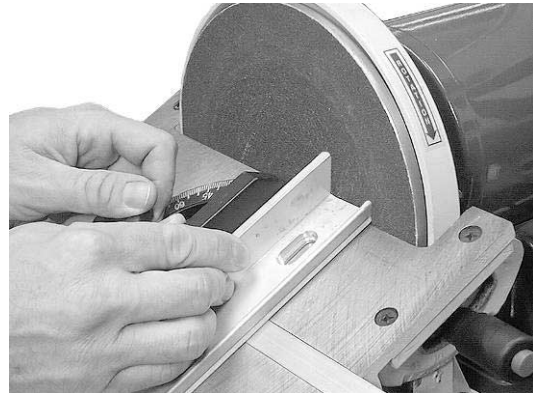

Figure 19
- Sanding aluminum on the disc unit with the table tilted and using the miter gauge as a guide. See Figure 19.